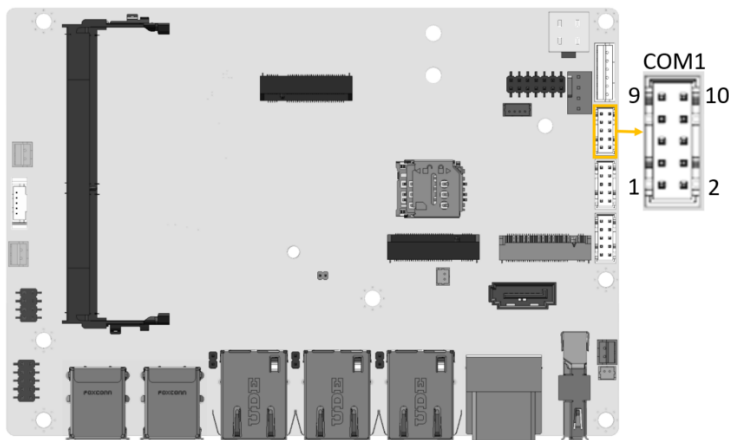

Figure 4-14: RS-232 Serial Port Connector Location
- CN Location:** See **Figure 4-14**